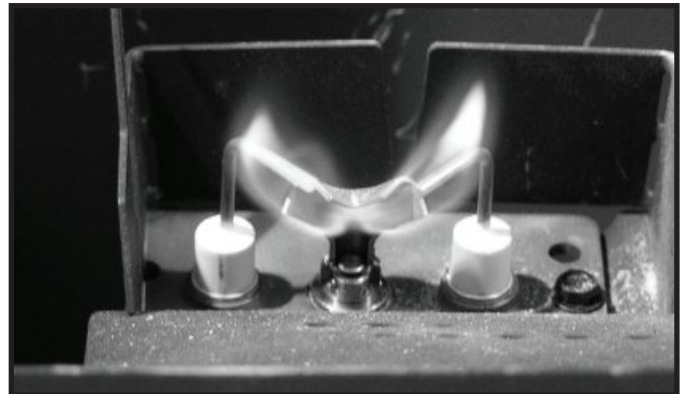

Figure 4.2 IPI Pilot Flame Pattern
- Inspect pilot flame pattern and strength. See Figure 4.2 for proper pilot flame pattern. Clean or replace orifice spud as necessary.